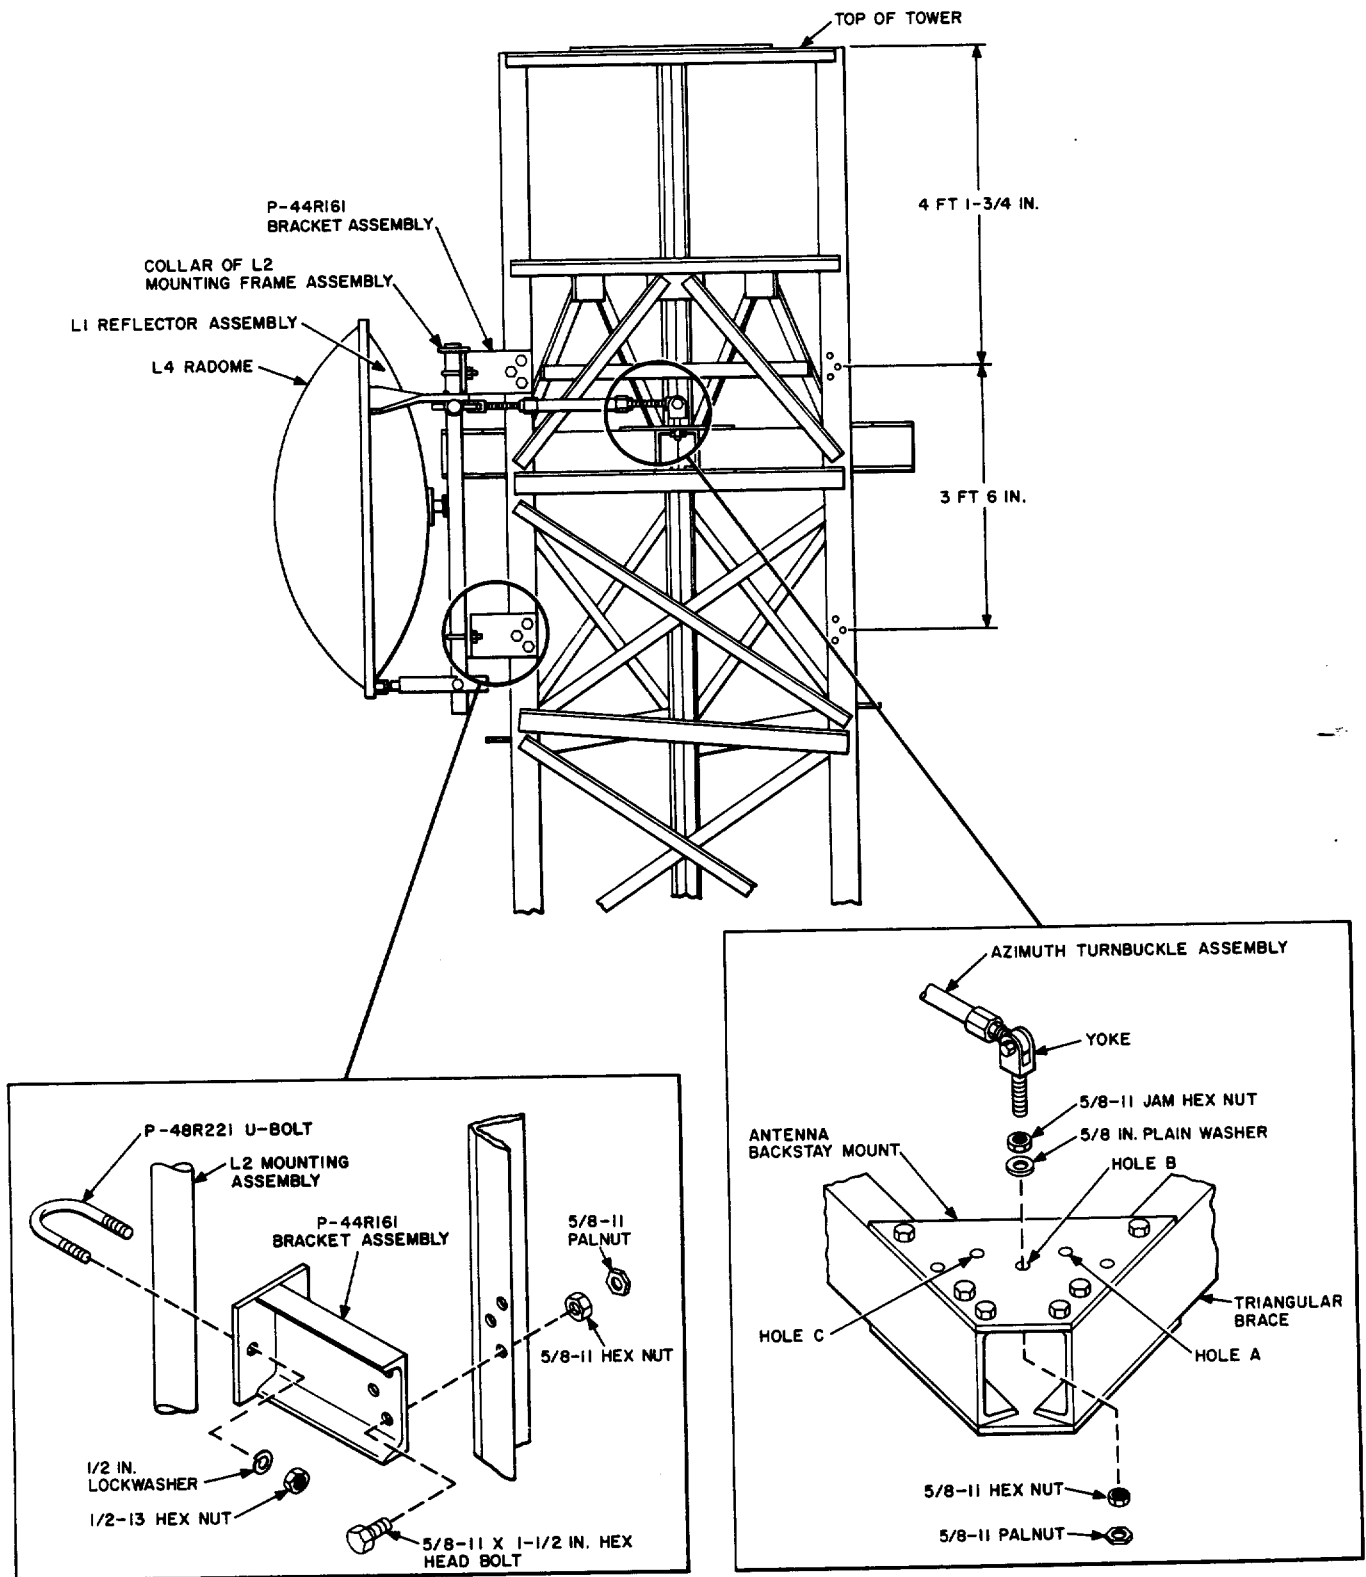

Fig. 6—Mounting Antenna on B Guyed Tower
**5.10** Attach the two P-44R161 bracket assemblies to the tower leg as shown in Fig. 6. Local supervision shall determine, using Table C as a guide, if the brackets should be mounted on the left or right of the tower leg. Secure each bracket assembly with three 5/8-11 x 1 1/2 hex head bolts, 5/8-11 hex nuts, and Palnuts.
Guide the vertical member of the mounting frame into position against the two brackets (Fig. 6). The collar of the mounting frame should rest on top of the upper bracket. Secure the mounting frame to each P-44R161 bracket assembly using a P-48R221 U-bolt, two 1/2 lockwashers, and two 1/2-13 hex nuts as shown in Fig. 6.
**5.12** With the antenna still supported by the winch line, install the azimuth adjustment turnbuckle using a 5/8-11 jam hex nut, 5/8 plain washer, 5/8-11 hex nut, and Palnut as shown in Fig. 6. The